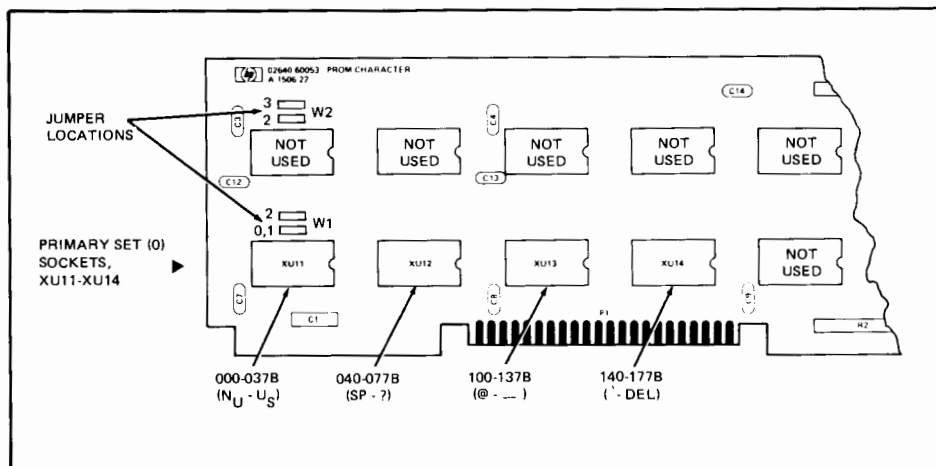

Figure 3-14. Location of PROMs If Primary Character Set Is To Be Replaced
1. Using table 3-3 as a guide, strap jumper locations W1 and W2 (figure 3-14) on the PROM character PCA to select the character set(s) to be replaced.
2. Insert the PROMs in the sockets indicated in table 3-3 for the character set(s) to be replaced (figures 3-14 and 3-15).